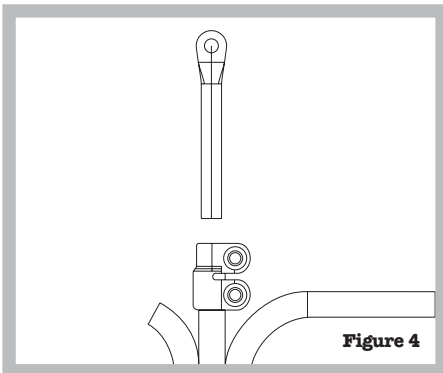
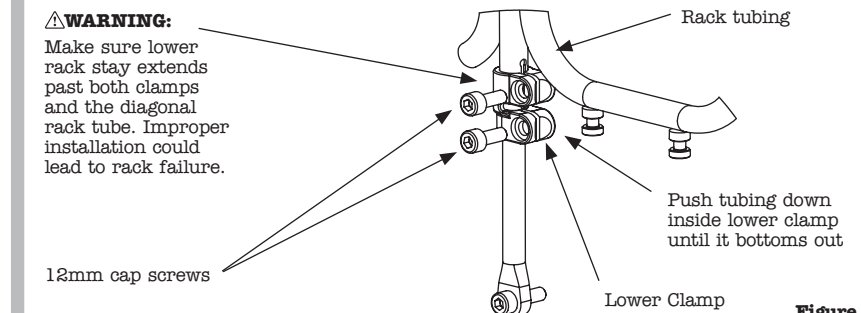

Figure 4
Figure 5
4. Lightly grease the lower rack stays and install them into the clamps. (Figure 4). Grease the threads of the 12mm cap screws, and partially thread the screws into the clamps. (Figure 5). Don't tighten them yet.